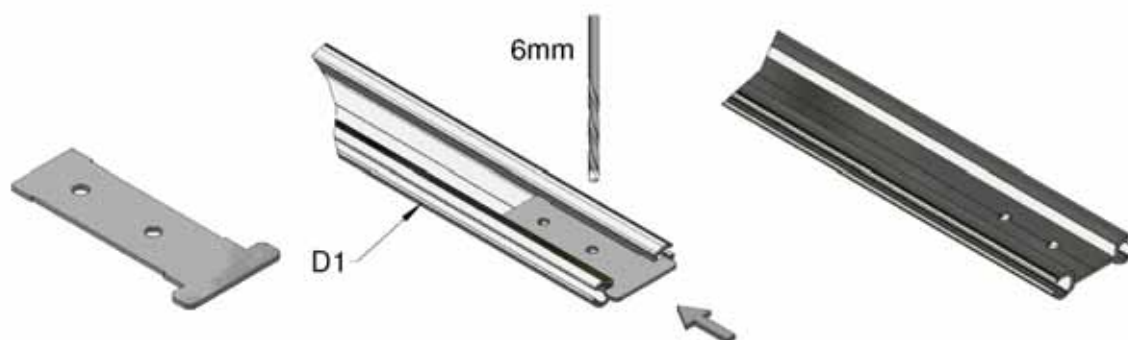

Figure 5a, Drilling Tension Bars
4. Fit the Drilling Template into the recess with the groove and fully up against the end stop. Use the template to drill two holes in the ends of the Tension Bar D1 with a 6mm drill (Figure 5a).